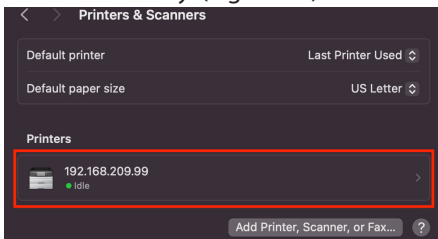

Figure 37
4. Click on the **Printer** entry. (Figure 37)